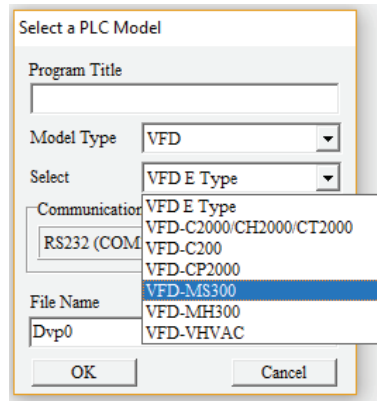

Figure 16-13
Step 4. This displays the **Select a PLC Model** dialog box where you can enter the **Program Title**, **File Name**, and select the device and communication settings (see Figure 16-13).